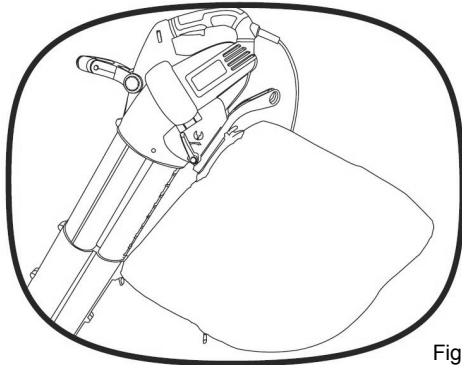

Fig. 5
2. Ensure the collection bag is attached. See Fig. 5.